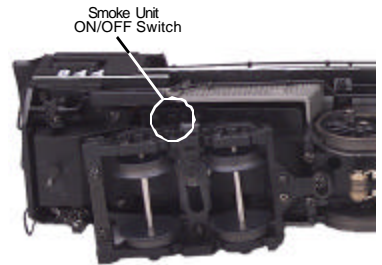

Figure 4. Smoke Unit ON/OFF Switch
3. If you choose not to prime the unit with fluid, turn the smoke unit switch located under the engine to the OFF position (see Fig. 4). **Running the engine without a primed smoke unit may cause damage.** See the “ProtoSmoke Unit Operation” section of this book for more information on smoke unit maintenance.
If you choose not to add the fluid (or have already added the fluid but choose to run smoke-free), turn off the smoke unit switch located under the leading truck (see Fig. 4). **Failure either to add fluid to the unit or to turn it off may damage the smoke unit heating element and/or wicking material.**